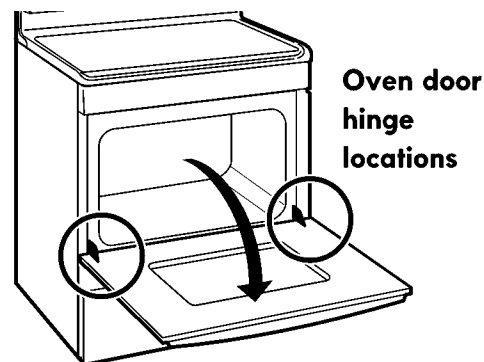

Figure 55: Door hinge location
1. Open oven door completely, horizontal with floor (Figure 55).
3. Fully open the oven door, horizontal with floor (Figure 55).